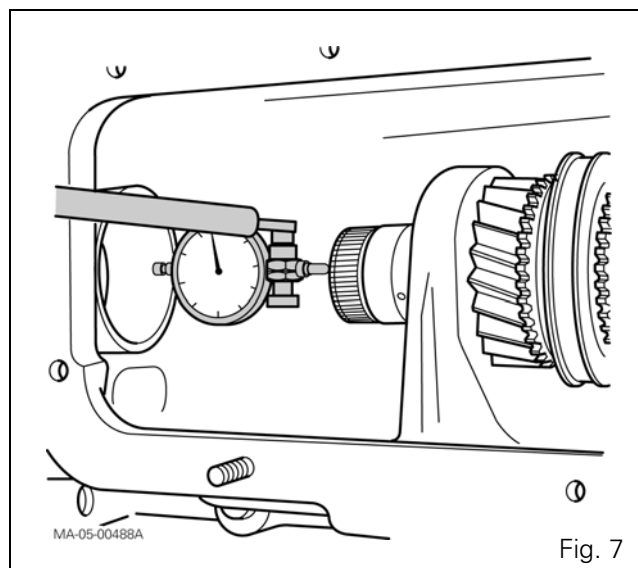

Fig. 7
34. Place the dial gauge feeler pin at the end of the shaft (Fig. 7).